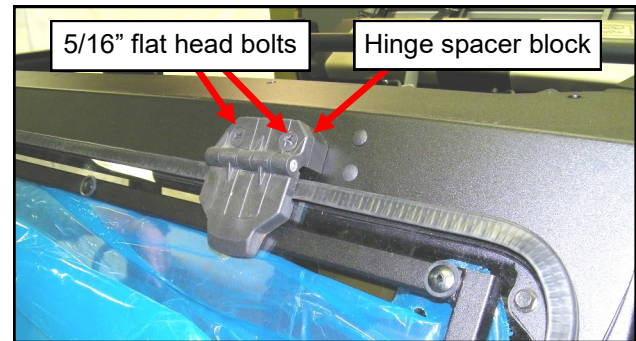

Fig. 10.1a (Windshield, outside)
**10.1** Per figures 10.1a and b, place a hinge spacer block onto the windshield hinge and two flat head 5/16" bolts through each hinge. **Note: for glass windshields, use the thinner 5/8" thick hinge spacer blocks found in the windshield box. For polycarbonate windshields, use the thicker 3/4" thick hinge spacer blocks found in the hardware box.** Place the windshield onto the windshield support with the bolts through the slots and secure with 5/16" nuts.